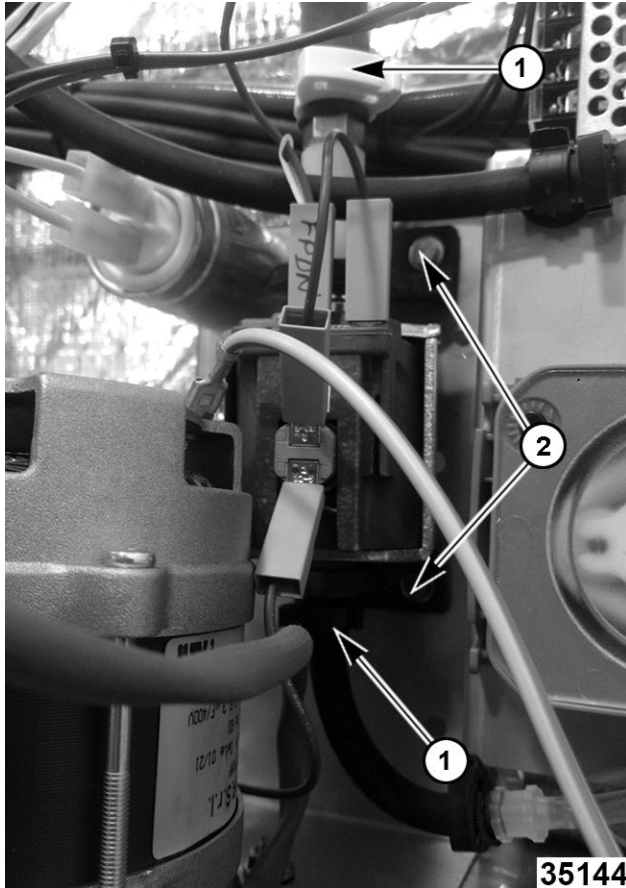

Fig. 55
4. Disconnect hose clamps (1, Fig. 55) from detergent pump.
6. Remove screws, washers,(2, Fig. 55) and detergent pump from mounting bracket.